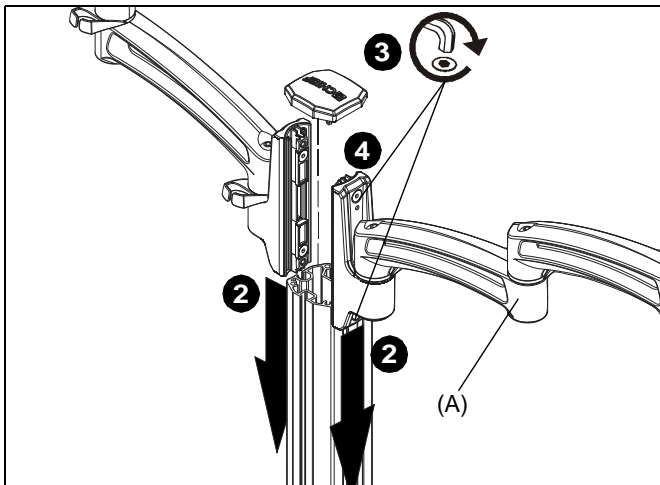

Figure 1
2. Slide MSP-WLK2 arm(s) (A) onto MSP-WLC20/30 column in channels to be used for mounting. (See Figure 1)
3. Tighten screws to secure each arm to column at desired mounting height. (See Figure 1)
4. Replace cap on top of column. (See Figure 1)